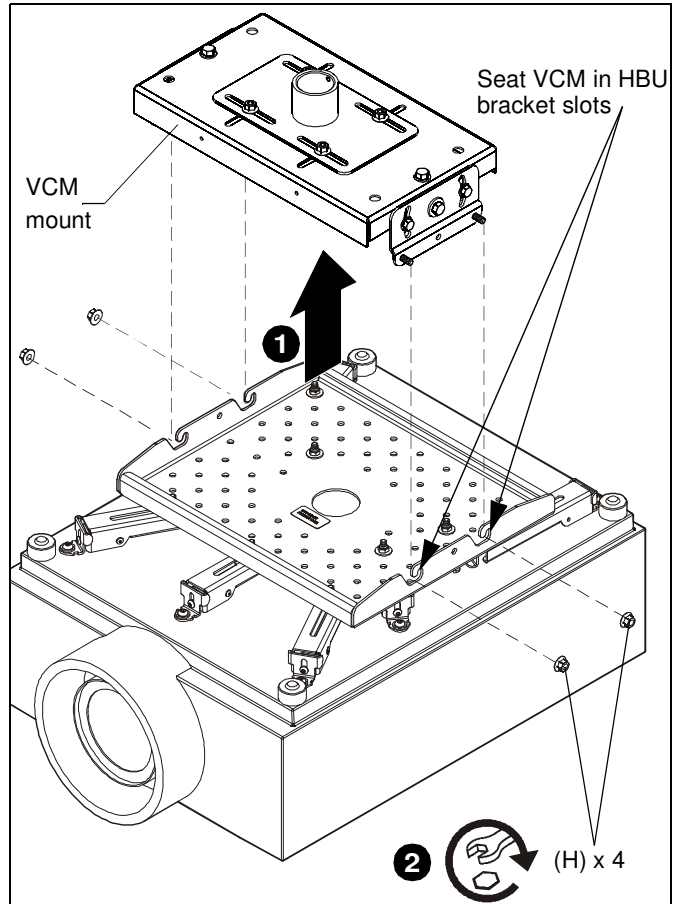

Figure 4
1. With help of assistants, lift the HBU bracket with the attached projector and install it to the four studs extending from the VCM ceiling mount (not included). (See Figure 4)
IMPORTANT ! : Ensure that the VCM ceiling mount is seated in slots on HBU bracket. (See Figure 4)
2. Fasten with four 5/16" flange nuts (H). (See Figure 4)